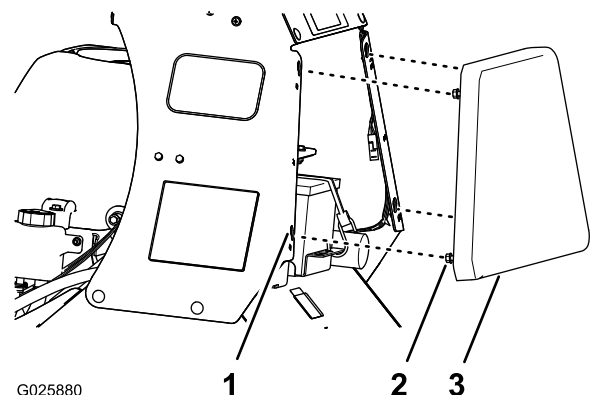

Figure 25
1. Loosen the 4 flanged-head bolts that secure the pad to the left and right console panels (Figure 25).
2. Lift up the console pad (Figure 25) approximately 13 mm (1/2 inch).
3. Pull the console pad straight back and remove the pad from the machine (Figure 25).
1. Align the 4 flanged-head bolts at the forward face of the console pad to the 4 keyhole slots in the frame of the console (Figure 25).
2. Move the pad forward until the pad is flush to the console frame (Figure 25).
3. Move the pad down until the flanged-head bolts are seated in the keyhole slots (Figure 25).